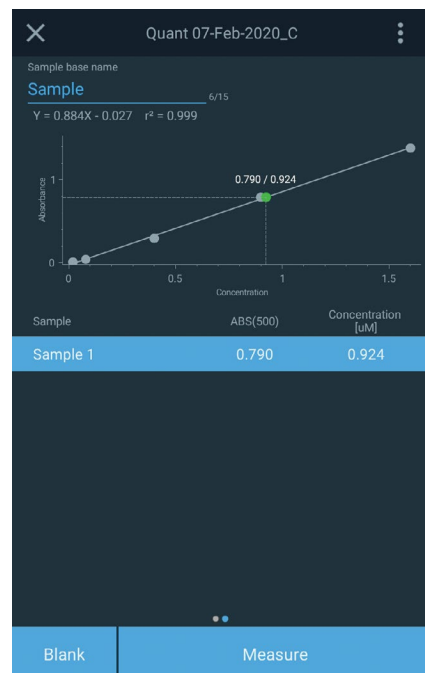

Figure 3: Beer's Law plot
3. The GENESYS software will automatically calculate the concentration of Blue No. 1 dye using the Beer's law plot (Figure 3).